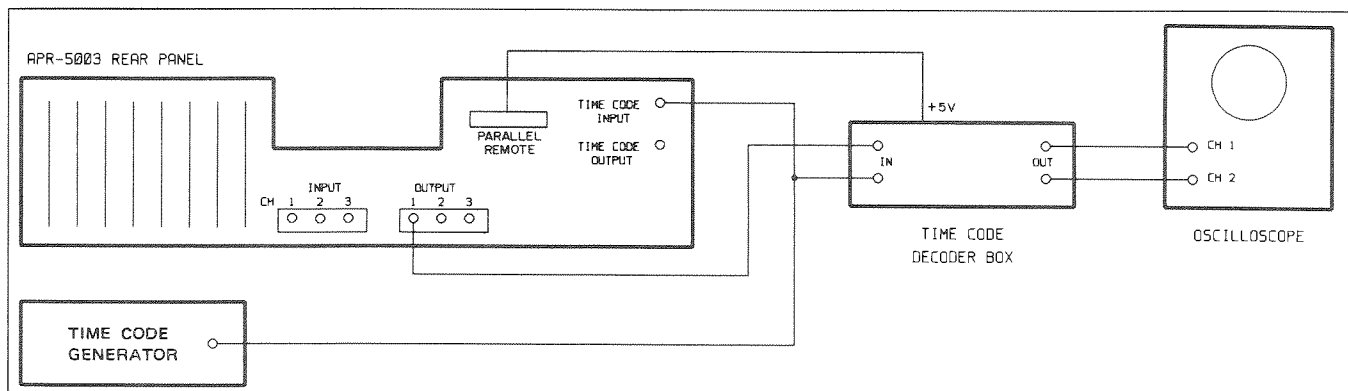

Figure 4-3. Longitudinal Offset Test Connections
**STEP 1** Connect the equipment as illustrated in Figure 4-3. Set the Time Code Generator to OFF. On the Oscilloscope, set Channel 1 for normal operation, Channel 2 for inverted operation, and the function switch for an algebraic sum display.